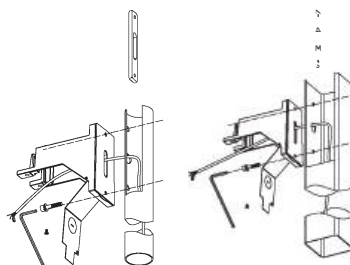

Fig 25
2. After the bolt passes through the bracket and the post, screw the screws on the sticking strips with a wrench. The bracket is installed onto the post, as shown in Fig. 25.